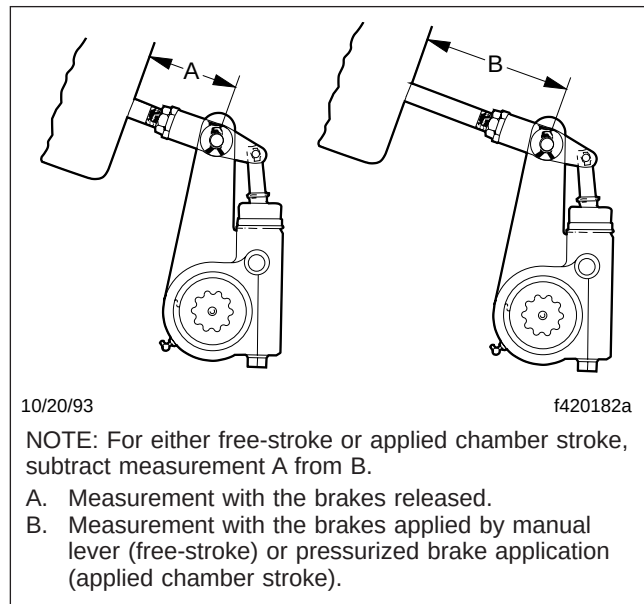

Fig. 9, Measuring the Stroke
- 5.1 With the brakes released, measure the distance from the bottom of the brake chamber to the center of the large clevis pin. Record this measurement as dimension A. See Fig. 9.
Measure the distance from the bottom of the brake chamber to the center of the large clevis pin. Record this measurement as dimension B. See Fig. 9.
- 6.2 With the brakes released, measure the distance from the bottom of the brake chamber to the center of the large clevis pin. Record this measurement as dimension A. See Fig. 9.
- 6.3 Fully apply the brakes. Then, measure the distance from the bottom of the brake chamber to the center of the large clevis pin. See Fig. 9, Ref. B. Record this measurement as dimension B.